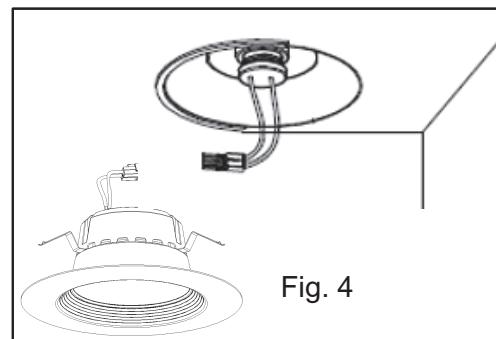

Fig. 4
4) Plug connector of E26 (B) socket adapter into the LED Retrofit Downlight's (A) connector (Figure 4). Make sure connector is fully engaged.